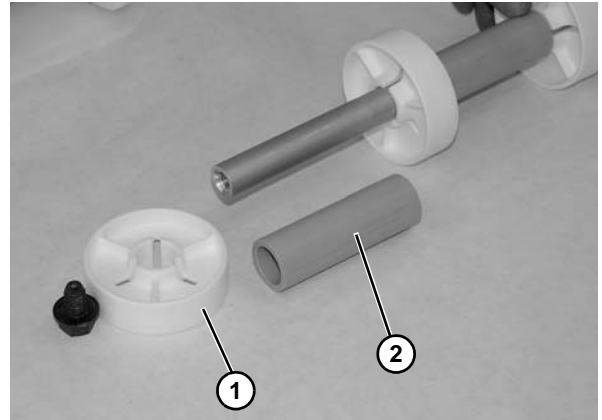

Figure 117
14. Remove idler pucks (**Figure 117, item 1**) and tube spacers (**Figure 117, item 2**), as needed, from each side of assembly.